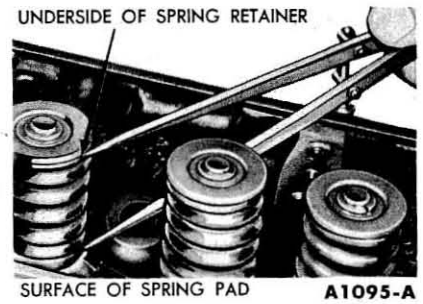

FIG. 28—Valve Spring Assembled Height
8. Measure the assembled height of the valve springs from the surface of the cylinder head spring pad to the underside of the spring retainer with dividers (Fig. 28).